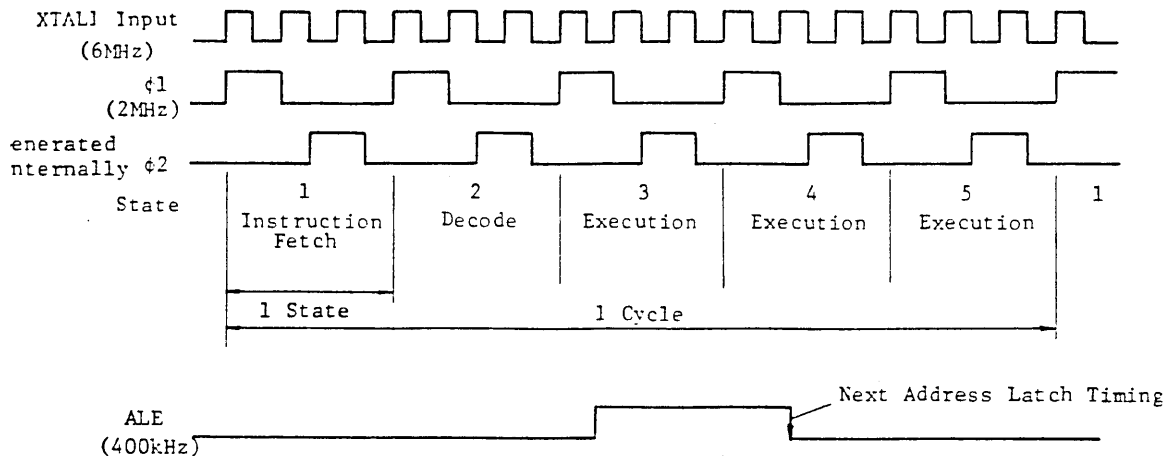

Fig.4 Instruction Cycle Timing
(1) Instruction Cycle
- . Fig.4 illustrates its relationship with the clock input to CPU.
- . ϕ_2 clock shown in Fig.4 is derived to outside by ENTO CLK instruction.
(2) External Memory Access Timing